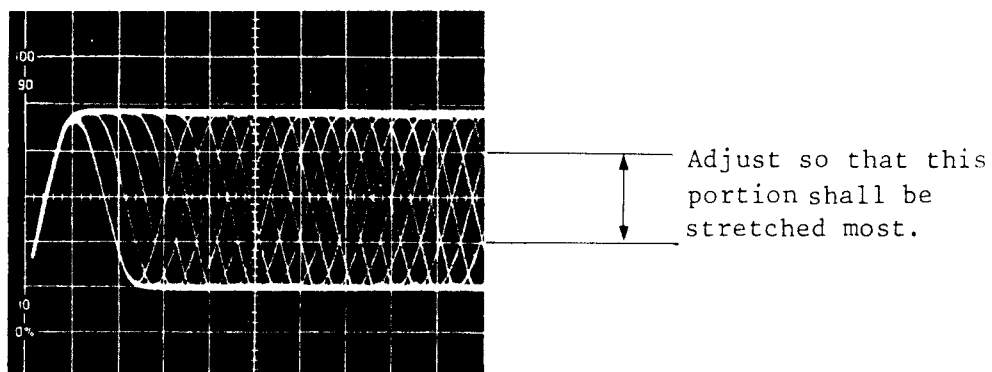

Fig. 3-14
- ③ Turn on the power supply switch.
- ④ Place the test disc (SZZP1014F) and set the player to the playing condition.
- ⑤ The RF signal will be displayed on the oscilloscope. Adjust the two Mechanical adjusting screws so that the eye pattern is stretched most as shown in Fig. 3-14.